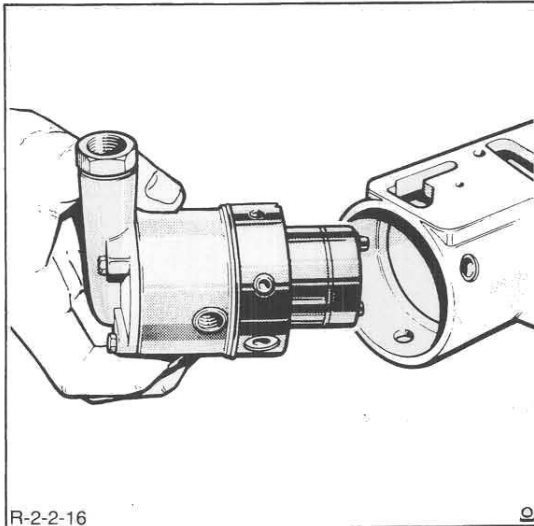

Figure 16
9. Remove the two hydraulic head locating bolts and withdraw the head assembly, Figure 16.